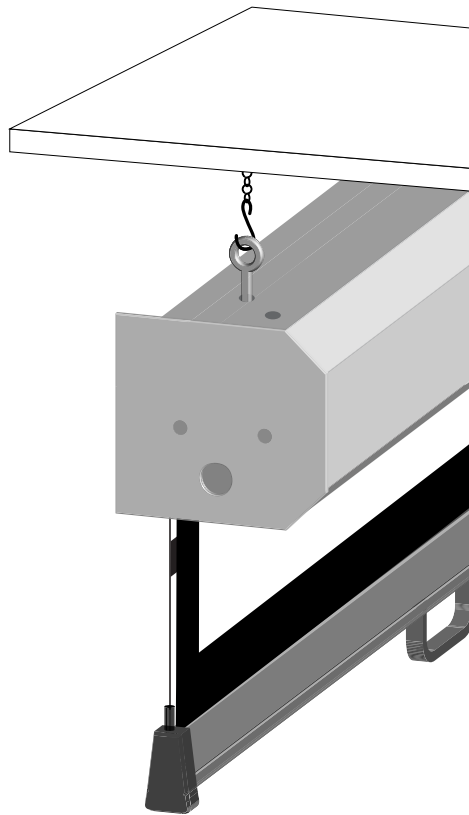

Figure 3. Suspended mount
2. Suspend the unit from the eye bolts on the unit using chains, cables, Unistrut, threaded rod, or turnbuckles. Refer to Figure 3.